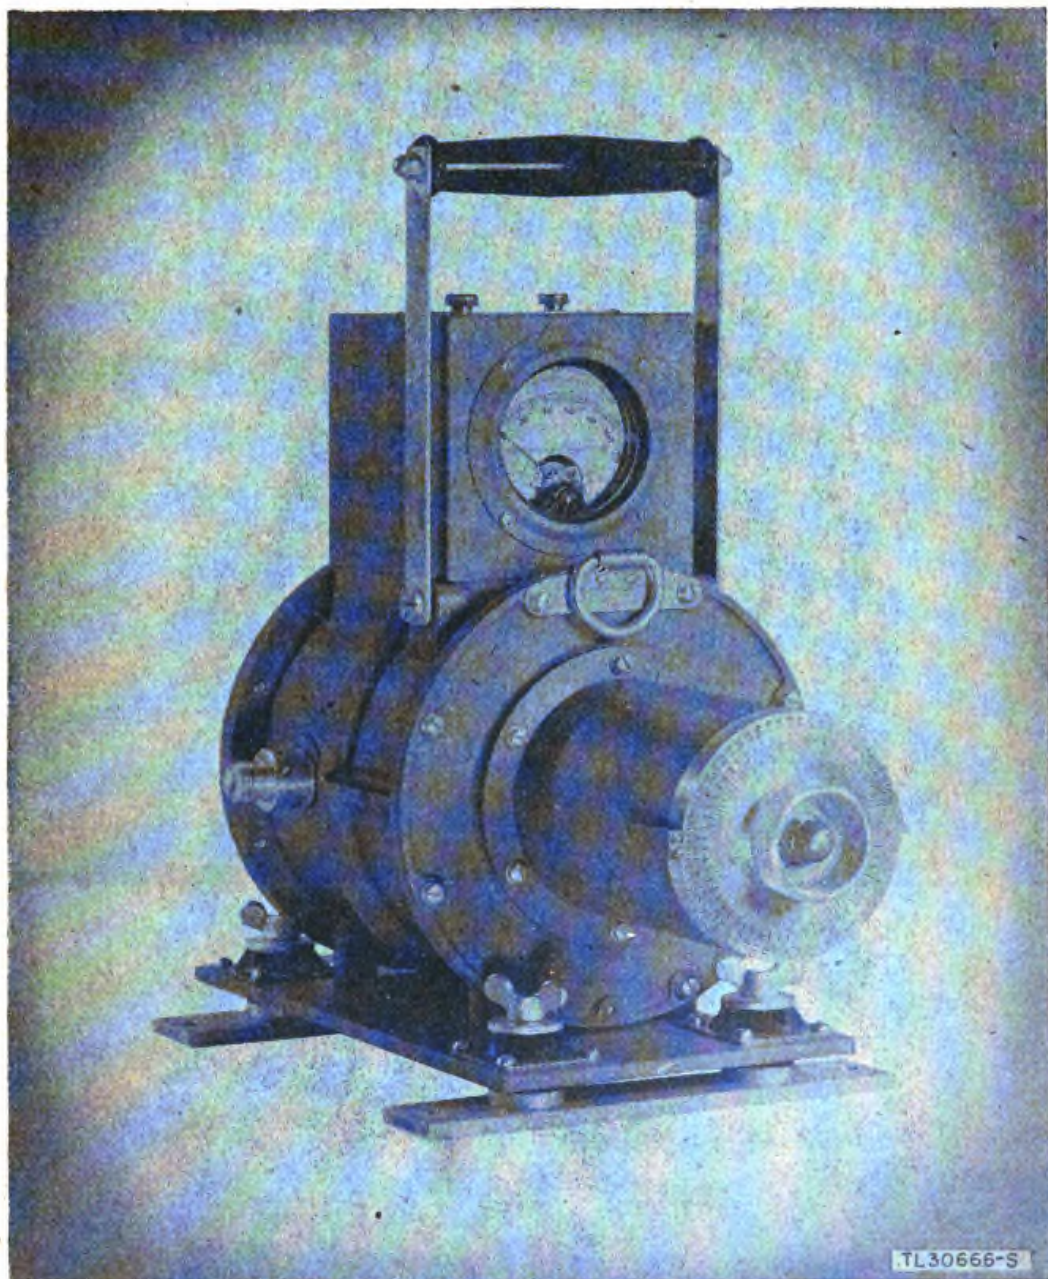

Figure 1. Echo Box TS-270/UP.
3. ECHO BOX TS-270/UP (fig. 1).